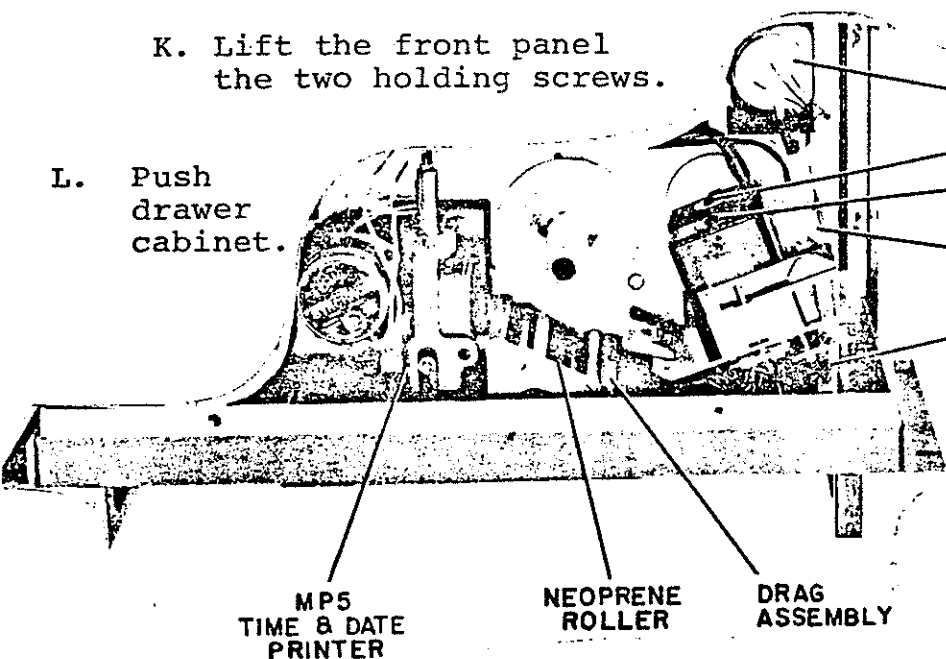

Figure 3
I. Figure 3 see the time and date printer. It is connected behind the Polished Platen. The time and date is painted on the back of the chart paper.